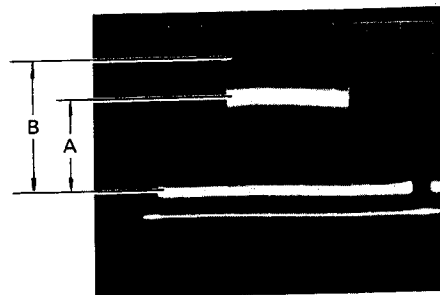

Fig. 5-6-17
- o Adjust VR20 (DETAIL GAIN) so that the vertical detail (aperture) signal B becomes $(B+C)/2A \times 100 = 135 \pm 5\%$ from the black level of the window chart signal. (Fig. 5-6-17)